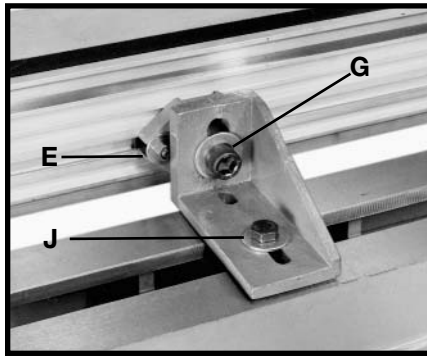

Fig. 36
6. Tighten two hex nuts (one of which is shown at (E) Fig. 36, socket head bolt (G) and hex head bolt (J). Final adjustments will be made later.